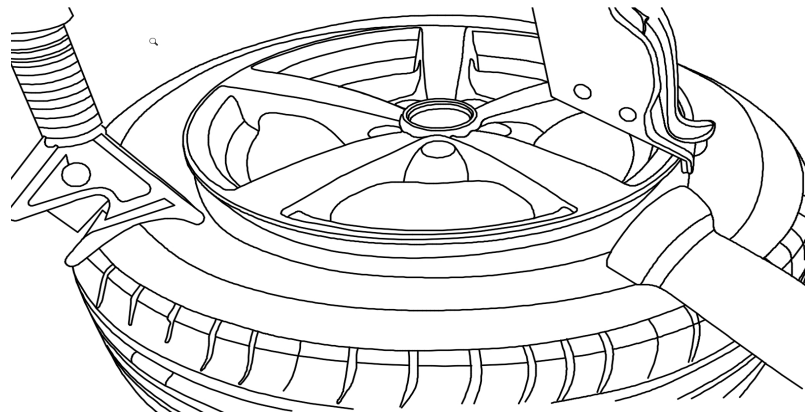

Fig.21
- 1) Pull out the pressing roller and pull the control handle of the help arm system to lower the roller on to the tyre (Fig.21).
- 3) Stepping on the rotating pedal, the turntable rotates and the pressing block moves accordingly (Fig.21). With the help of the mount/demount head, mount upper tyre bead on the wheel.